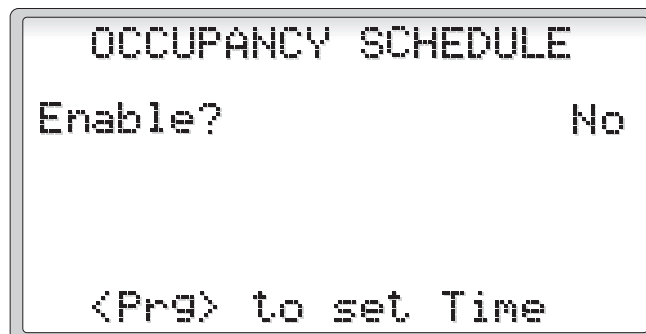

Figure 8
2.3.2 Occupancy Schedule (Figure 8)
Select the OCCUPANCY SCHEDULE from the MAIN MENU to enable a schedule to place the dehumidifier in the occupied mode. See Figure 8. To enable a schedule, select Yes, and press **ENTER**. The schedule will need to be setup before this will be enabled. Pressing the **Prg** key from this menu allows the date and time to be modified.